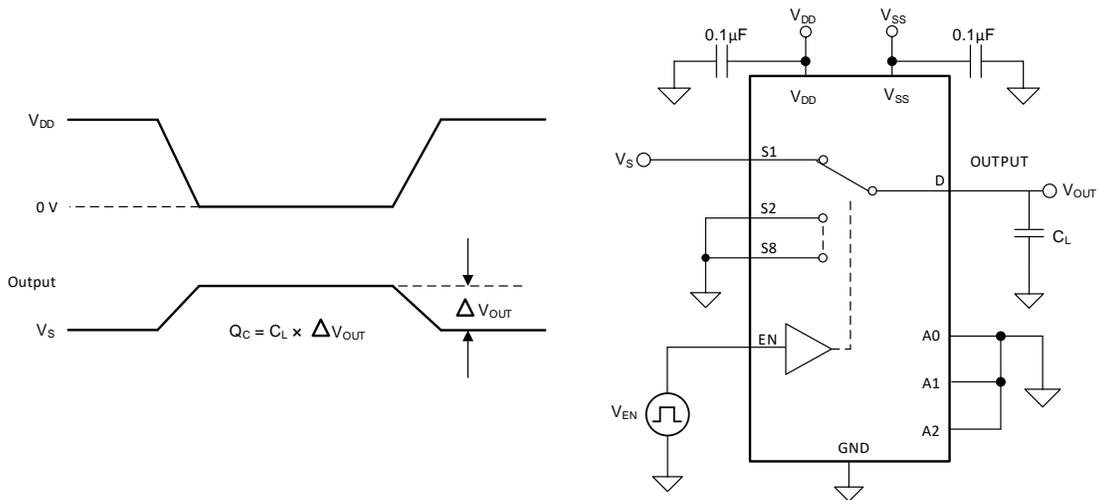

图 24. Charge-Injection Measurement Setup
The TMUX1108 has a transmission-gate topology. Any mismatch in capacitance between the NMOS and PMOS transistors results in a charge injected into the drain or source during the falling or rising edge of the gate signal. The amount of charge injected into the source or drain of the device is known as charge injection, and is denoted by the symbol Q_C . 图 24 shows the setup used to measure charge injection from source (Sx) to drain (D).